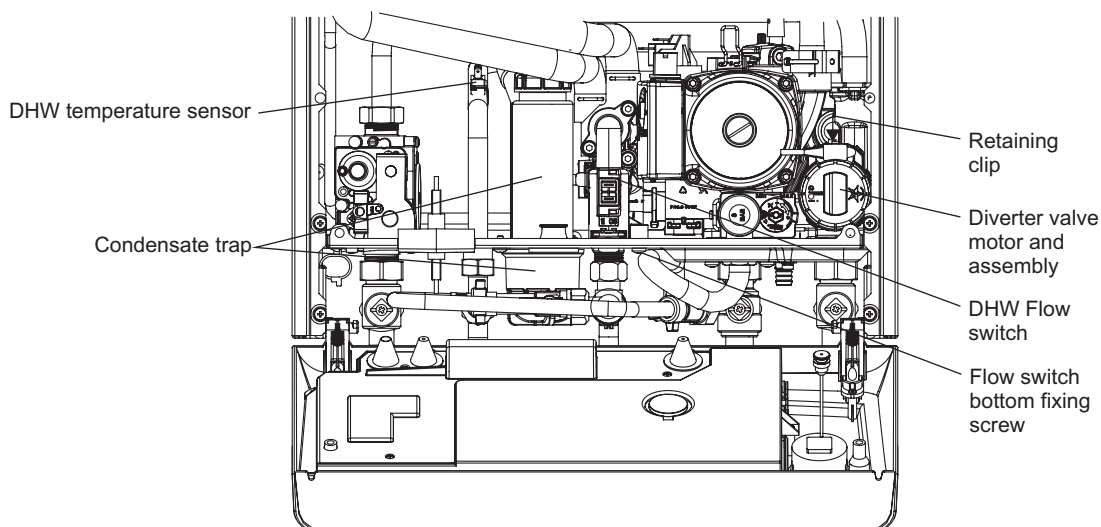

Fig. 32
7.13 DIVERTER VALVE MOTOR - Fig. 32
7.15 DHW TEMPERATURE SENSOR - Fig. 32
1. The DHW sensor is positioned in the hot water outlet pipe to the left of the flow switch, see Fig. 32. Unplug the two connections and unclip the sensor from the pipe.
Note: The DHW sensor should be on the sloped part of the DHW pipe. See Fig. 32.
7.19 DHW FLOW SWITCH - Fig. 32